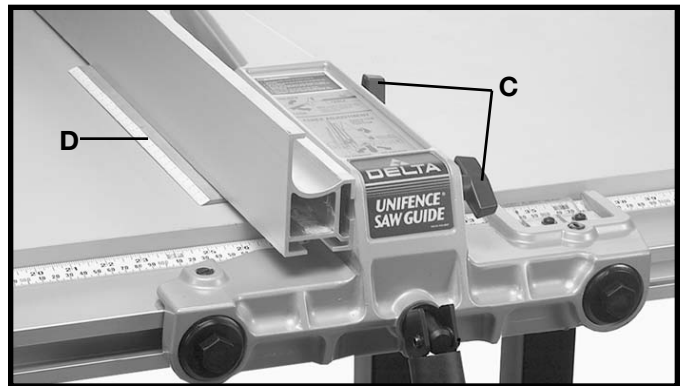

Fig. 40
2. For most normal ripping operations, the bottom of the fence should be positioned slightly above the table surface. Loosen two lock knobs (C) Fig. 40, and place a thin object such as a scale (D) between the table and fence, as shown. Then tighten two lock knobs (C).